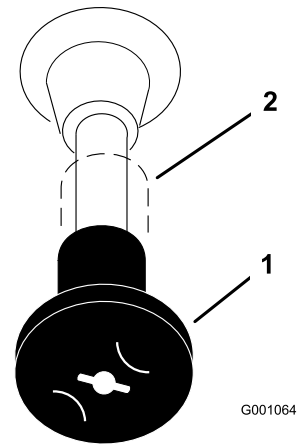

Figure 13
4. Move the choke control to the **on** position before starting a cold engine (Figure 13).
7. After the engine starts, move the choke to off (Figure 13). If the engine stalls or hesitates, move the choke back to on for a few seconds, then move the throttle lever to desired setting. Repeat this as required.